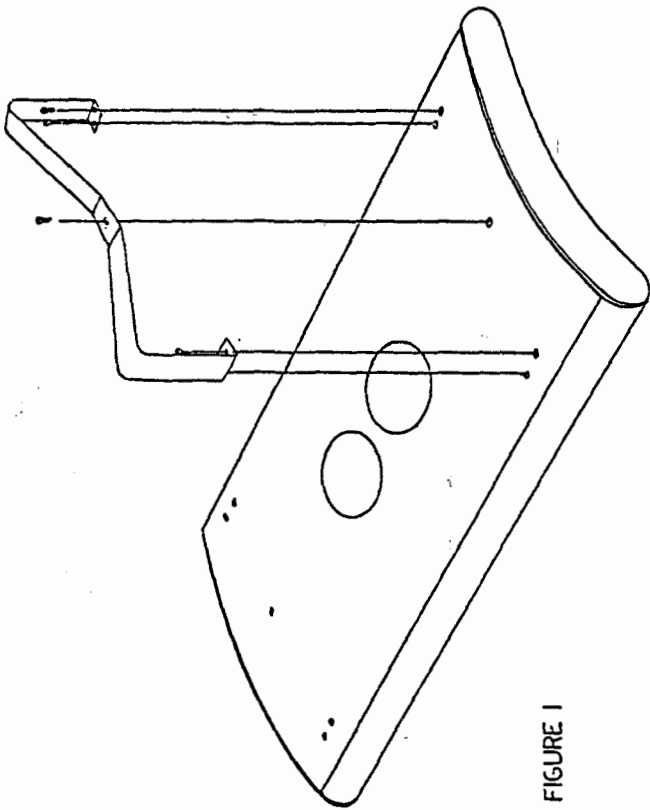

FIGURE 1
Carefully remove the sunbed unit from the carton marked "sunbed" and lay it on carpet or similar surface (to prevent scratching) with acrylic side down (see figure 1).
Locate the ten (10) 1/4" allen head screws in the carton marked "arm kit" and attach the legs as shown in figure 1. When the legs are securely fastened, turn the unit over so that the acrylic side is up and the unit is standing on its legs.